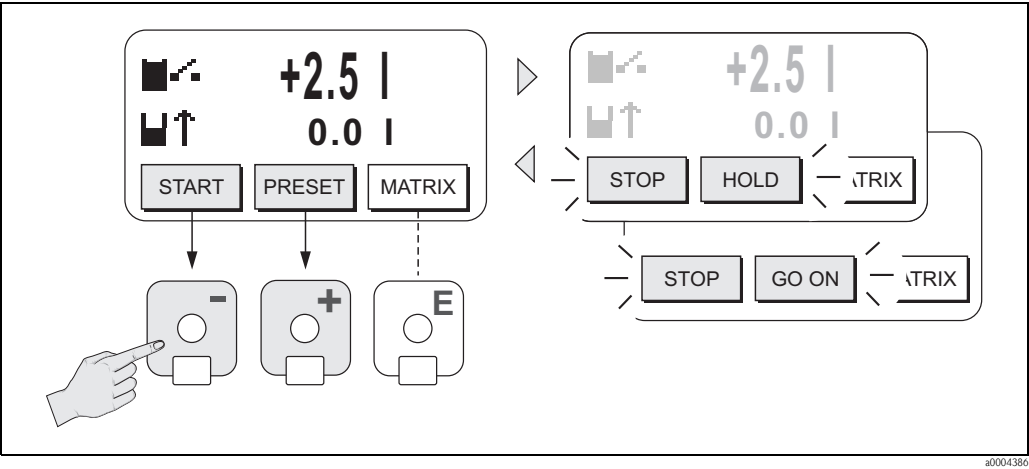

Fig. 29: Controlling batching processes using the local display (softkeys)
The following "softkeys" then appear on the bottom line of the local display → Fig. 29:
- 3. After exiting the PRESET menu, you can now start the batching process by pressing "START ([-])". New softkeys (STOP / HOLD or GO ON) now appear on the display. You can use these to interrupt, continue or stop the batching process at any time. → Fig. 29